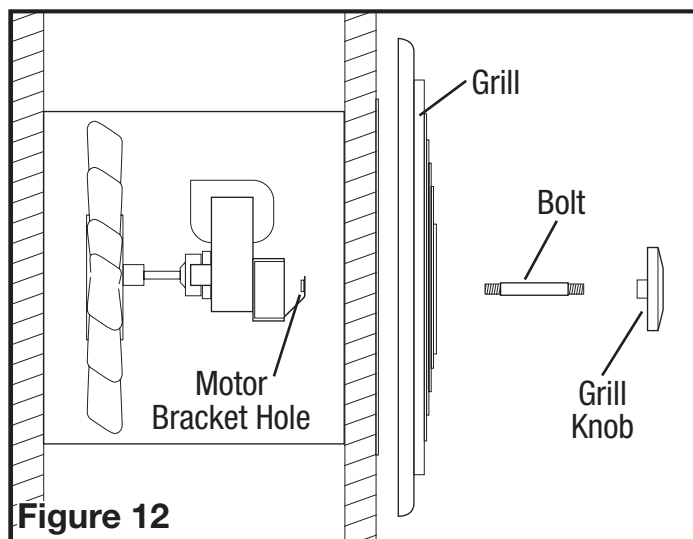

Figure 12
2. Install grill by positioning over the inner housing and aligning the center hole on the grill with the hole on the motor bracket. Screw one side of the included grill bolt into the hole on the motor bracket and the other side into the grill knob and turn to tighten until the grill is tightly fit against the wall. DO NOT OVER TIGHTEN (Figure 12).